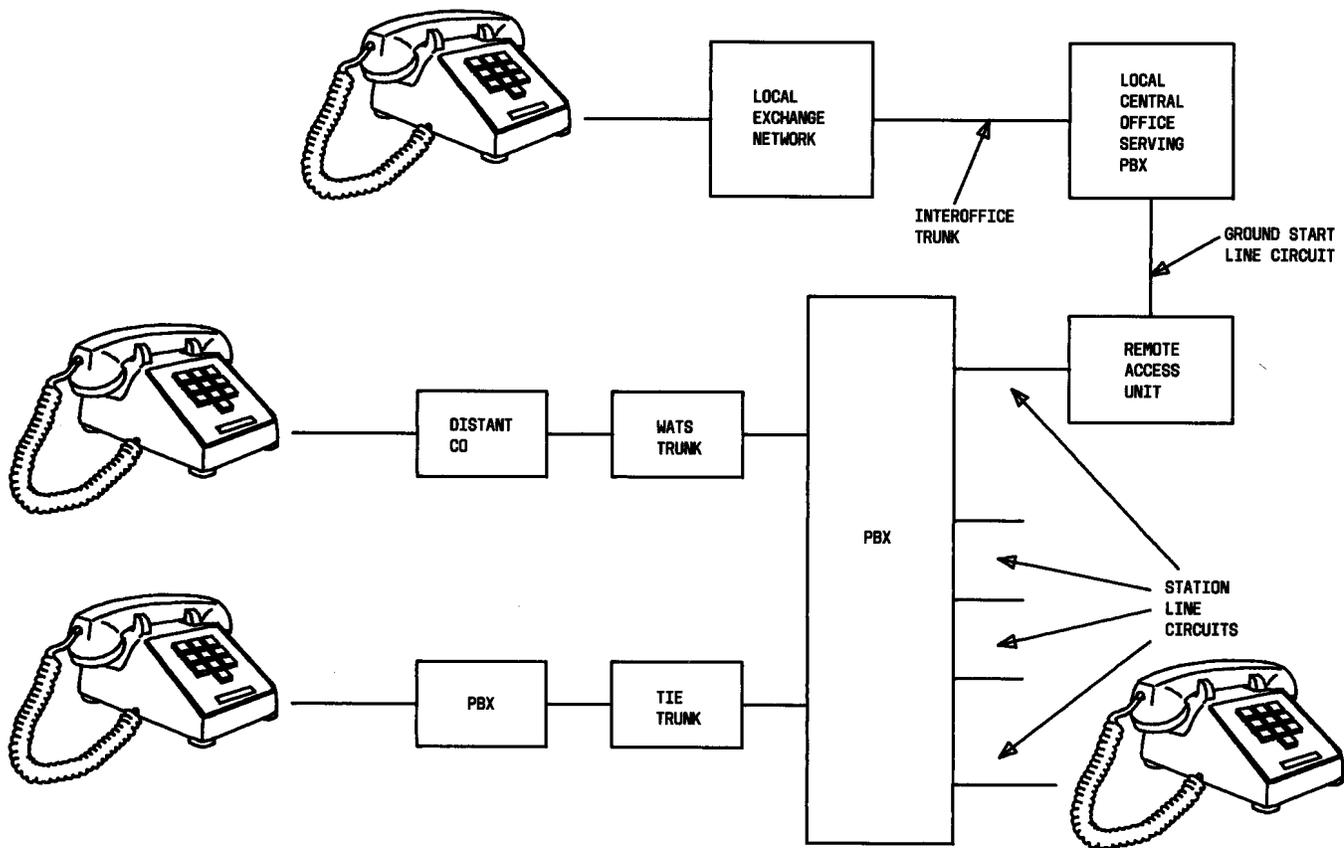
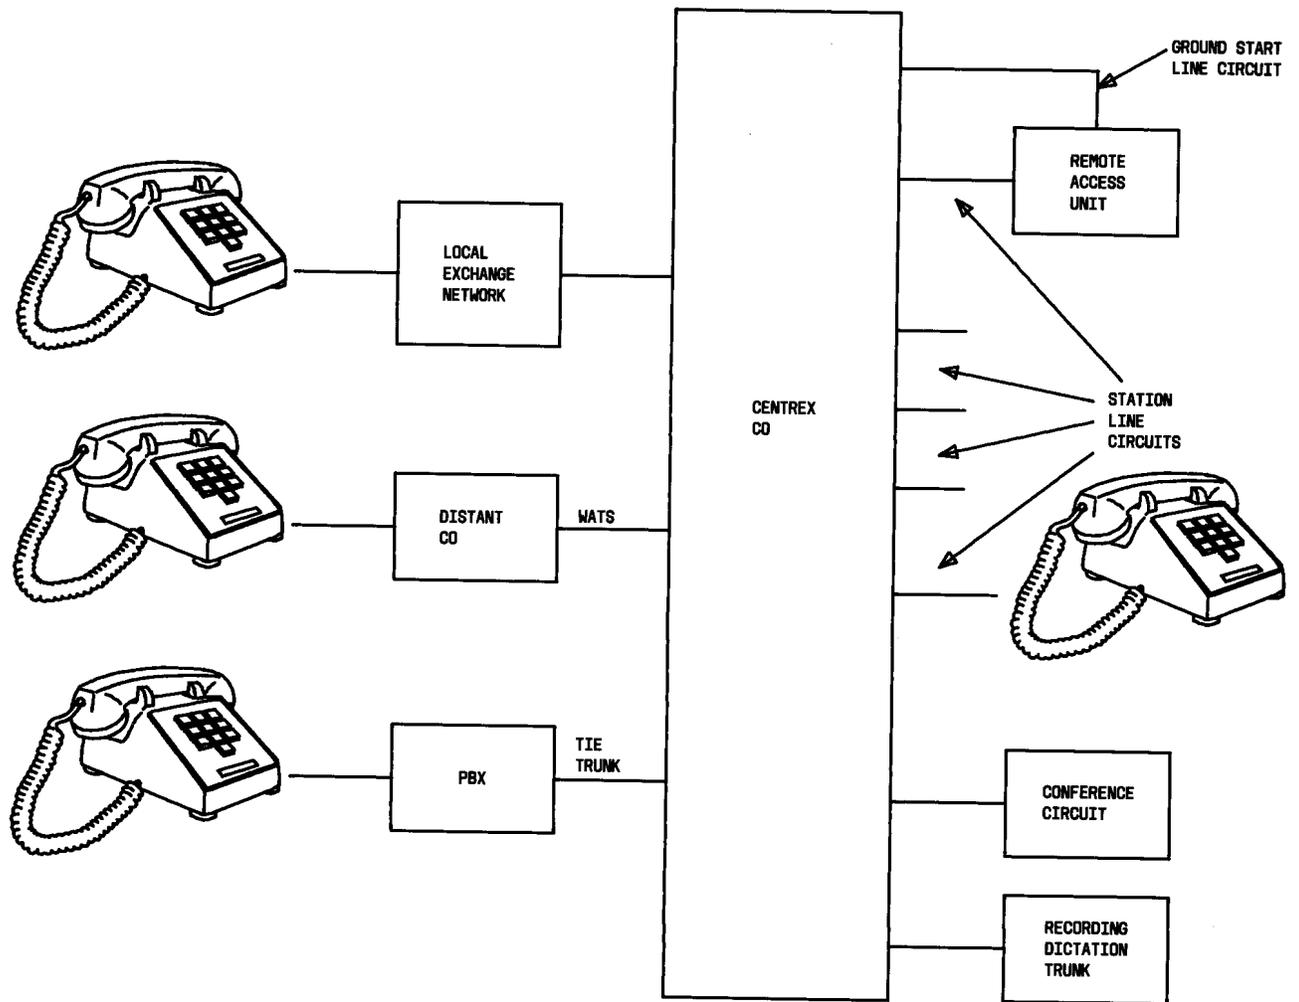

Fig. 1—Remote Access Unit—PBX Application
Fig. 2—Remote Access Unit—CTX-CO Application
2.01 The RAU is used with 701, 740, 756A, 757, 770A, 800, 801, 805, and 812A PBXs and centrex systems to provide coded access into customer PBXs from any off-premises station. It is connected between a CO ground start line circuit and a PBX station line circuit (Fig. 1) or a CTX line circuit (Fig. 2). It functions as a barrier between the CO and PBX for the transmission and signaling functions required to interface with the CO and PBX. It provides the same features as a PBX or CTX off-premises station, and has the advantage of not being limited to a fixed location.
- (a) **List 1**—Assembly, wiring, and equipment for one remote access circuit per SD-1E502-01, Fig. 1 and 2, including an externally mounted
(b) **List 2**—Apparatus required in addition to the List 1 unit for TOUCH-TONE dialing to dial pulse conversion per SD-1E502-01, Fig. 2, consisting of the following circuit pack: